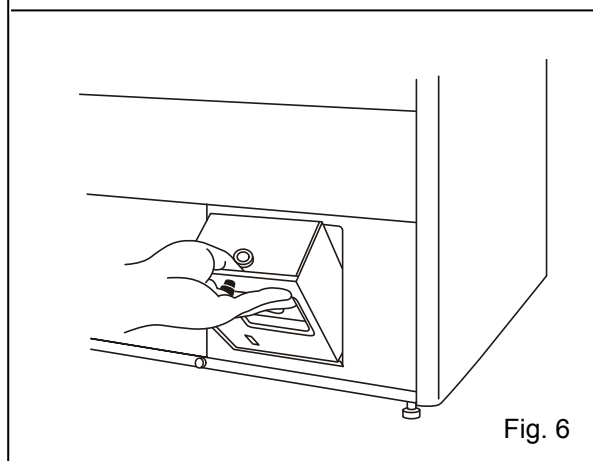

Fig. 6
9. Set the temperature recorder with the frame to the space for temperature recorder. [Fig. 6]